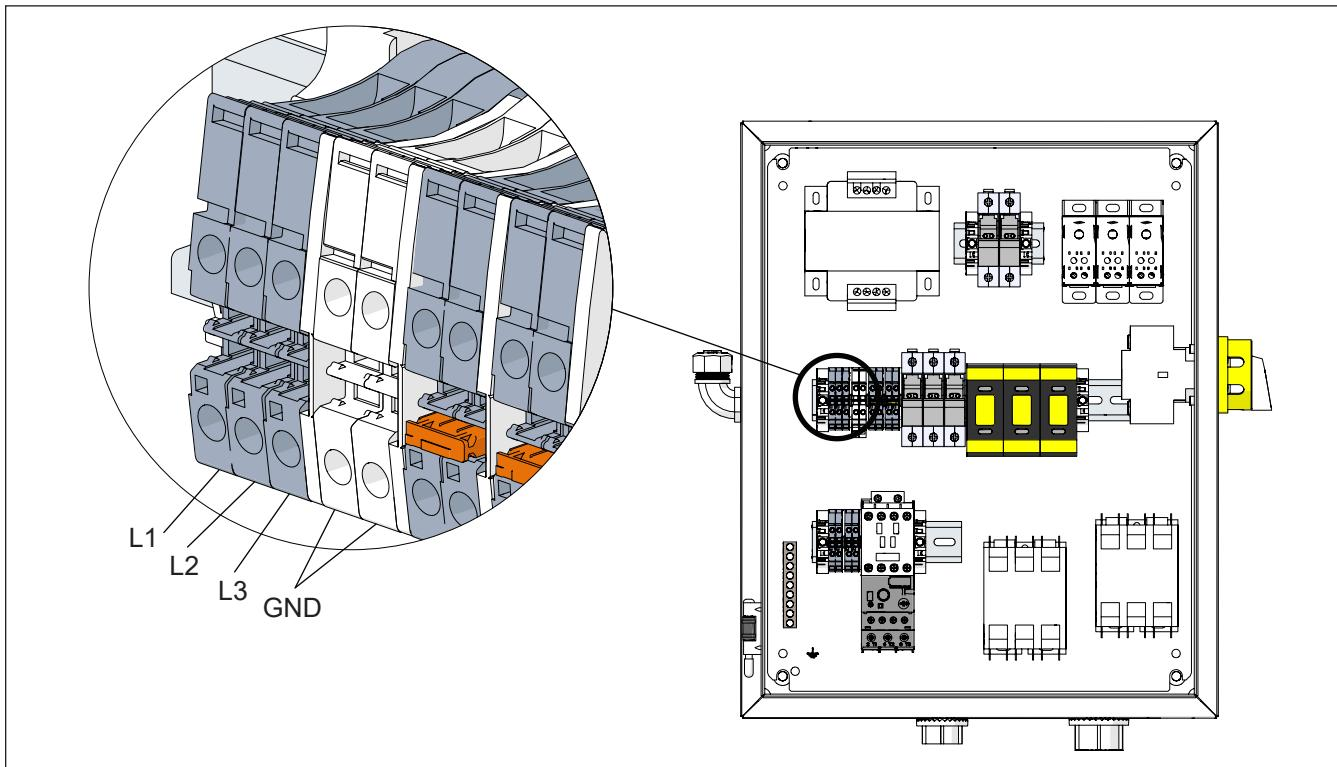

Figure 5.12 — Terminal Blocks in High Voltage Box
4. Consult with a licensed electrician to bring power from the main electrical source to the dryer's main disconnect located within the high voltage box (refer to Figure 5.12). Incoming power must be properly grounded according to local, state, and federal codes. The terminals are labeled L1, L2, and L3. On models with a non-fused switch type of disconnect, the power connections are located directly at the disconnect instead of at the terminal blocks.